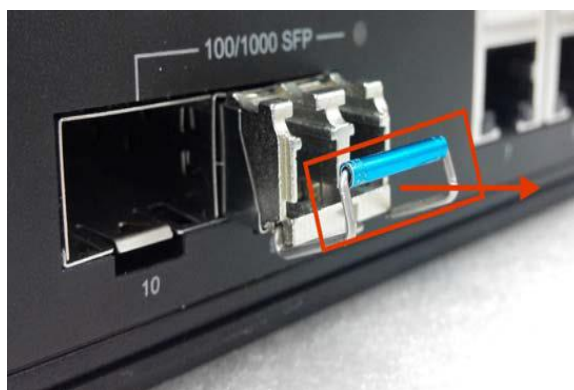

Figure 2.10 – Pull Out from SFP Slot
- **Step 2** - Push down the metal clasp and pull the transceiver out by the plastic part as shown below in Figure 2.10.